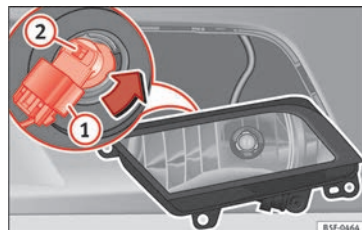

Fig. 216 Front fog light.
- Remove connector » **Fig. 216** **1** from the bulb.
- Turn the bulb holder » **Fig. 216** **2** anti-clockwise and pull.